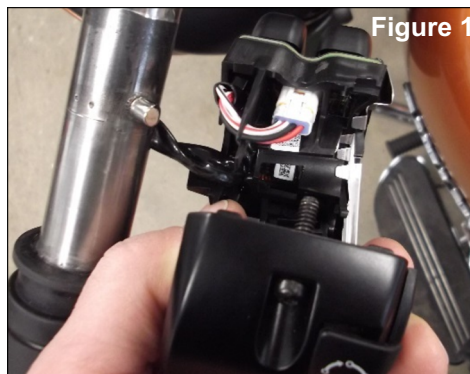

Figure 1
2. Remove the torx screws on your left and right handlebar switch housings and locate the small, white four position connector as seen in (Figure 1).